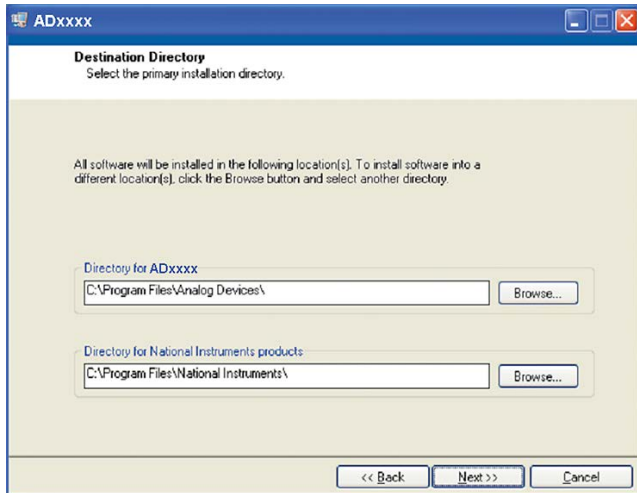

Figure 6. Selecting the Location for Software Installation
5. Select the location to install the software, and then click **Next**. Figure 6 shows the default locations, which are displayed when the window opens; select another location by clicking **Browse**.